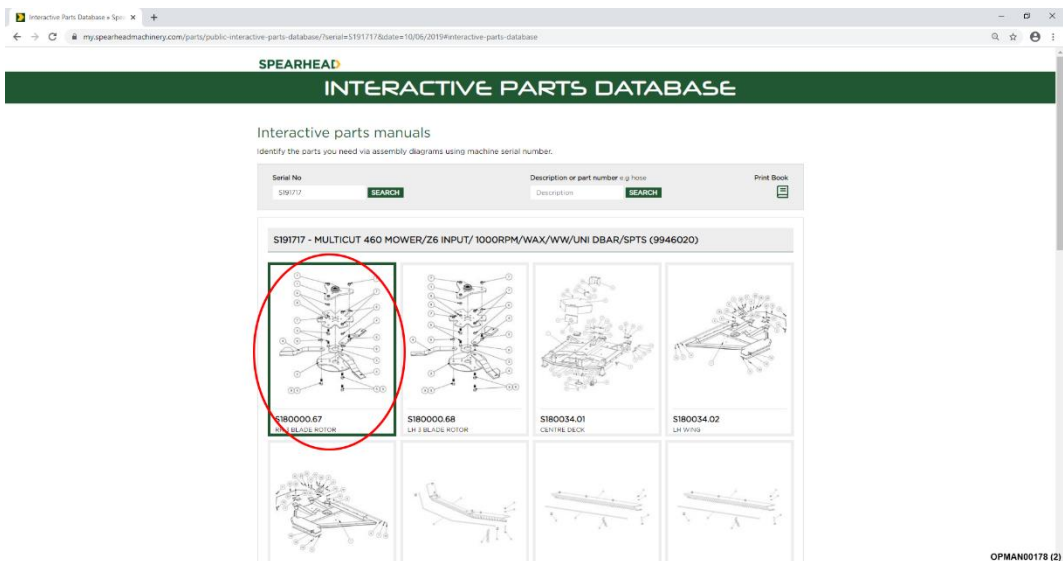

Figure 15 – Click On Assembly
7.1.1.3 After clicking on the serial number a full parts breakdown, specific to the machine serial number will appear showing the various parts and assemblies of the machine. Click on the specific assembly picture required; see Figure 15.